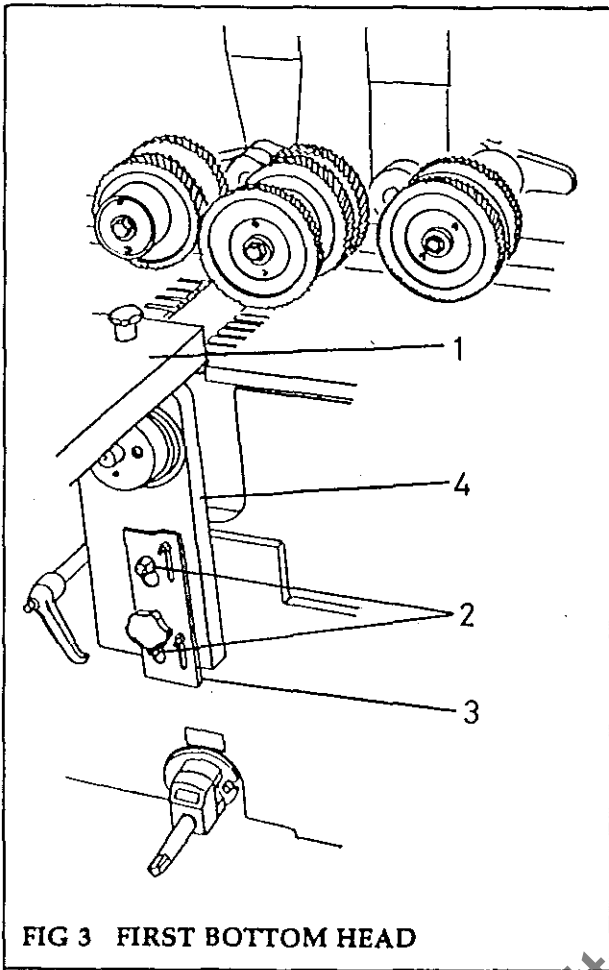

FIG 3 FIRST BOTTOM HEAD
FIRST BOTTOM HEAD (Fig. 3)
(4) If necessary, reset the cutter height as follows: (Fig 3)
- a. Release locking handle (1) and adjust the cutterblock height by rotating the adjusting screw (2) clockwise to raise the spindle, or anti-clockwise to lower.
- b. Refasten the locking handle (1).
- a. Release the spindle barrel lock (3) at the rear of the head (see inset fig 3). Depressurise the outboard bearing. Rotate the adjuster (4) to re-position the spindle.
- b. Retighten the barrel lock (3) and re-pressurise outboard bearing.